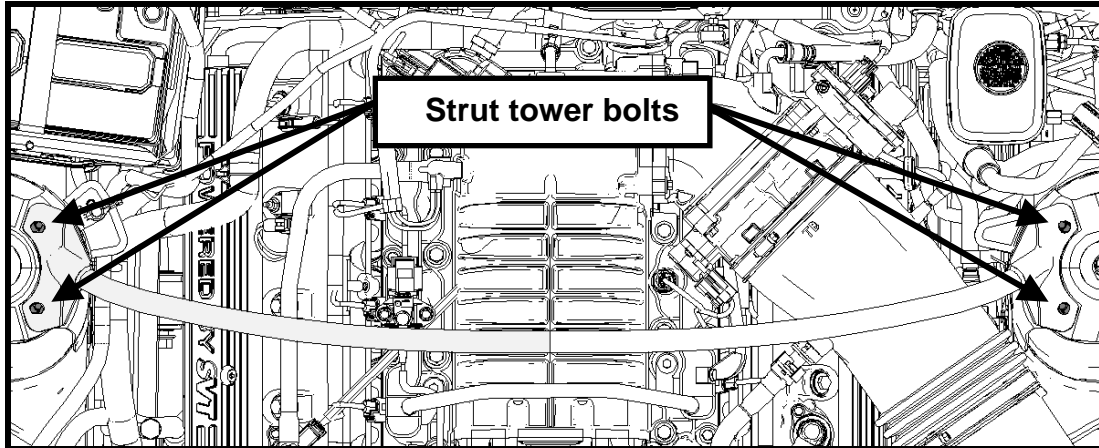

Fig. 2
**STEP 4:** Remove the factory strut tower brace (See Fig. 2).